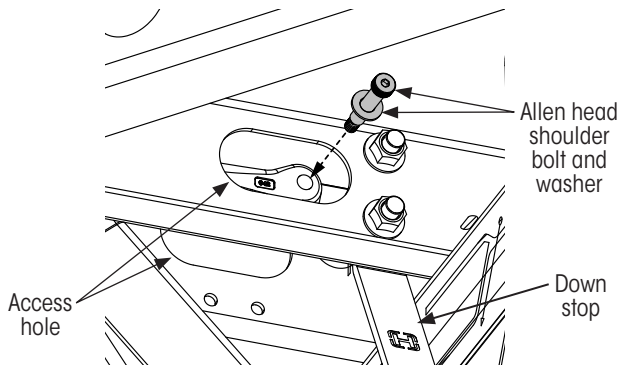
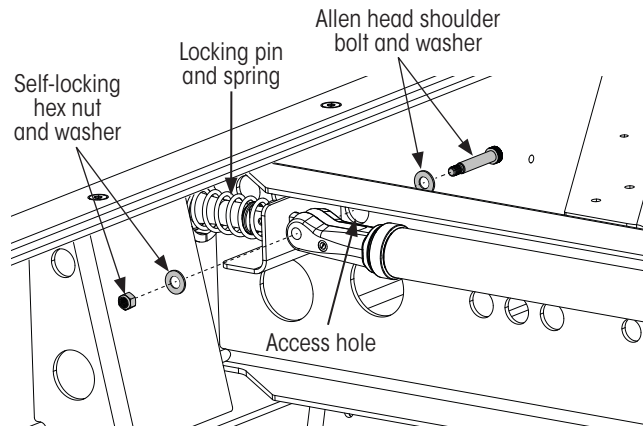

Figure 5: ULTRAA-K® front linear actuator aftermarket connection
Figure 6: VANTRAAX® aftermarket actuator/locking pin assembly
NOTICE On ULTRAA-K sliders, the **front fasteners must be installed with the shoulder bolt through the crossmember** as shown in Figure 5 to avoid contact with the down-stop fasteners.
3. (ULTRAA-K® front linear actuator only) **Press and hold** locking pin in place to expose the original fastener through the access hole (Figure 5) during installation of the new fastener.
5. **Align** holes (Figure 2, Figure 3, Figure 5 or Figure 6) and **insert** the fastener through the liner actuator end and locking pin at each end.
- A. If using Allen head shoulder bolt and washers included with the aftermarket QUIK-DRAW service hardware kit (**recommended**), **install** washer and self-locking hex nut (Figure 6) on bolt at each end of the linear actuator and tighten.